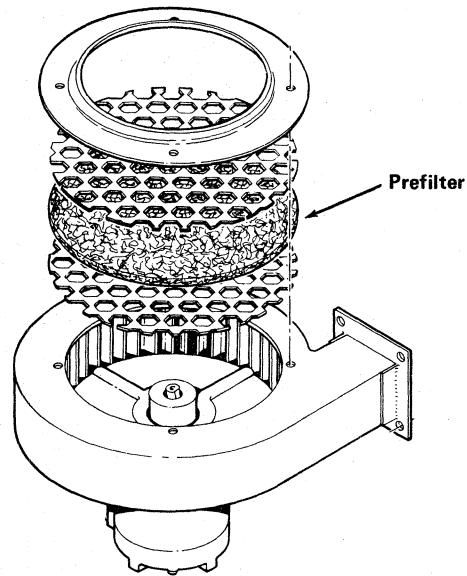

Figure 2 Prefilter
2. Remove and clean the prefilter (Figure 2).